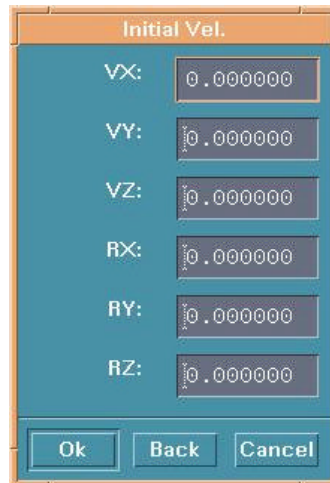

Figure 6.7.11 Velocity Define Table
- Enter the initial velocity in the INTIAL VELOCITY dialog window, Figure 6.7.11.